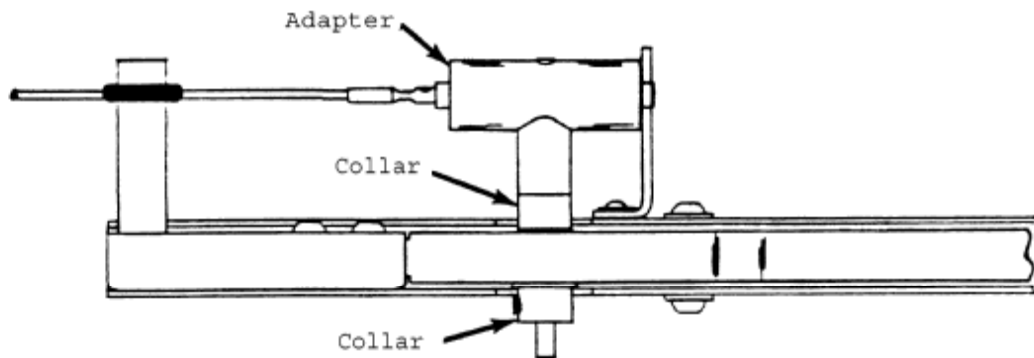

Figure 6-2. Adapter Installation on AD-1567 Holding Fixture
1. Install the appropriate adapter (from Section 6.1) onto the AD-1567 holding fixture (See Figure 6-2).